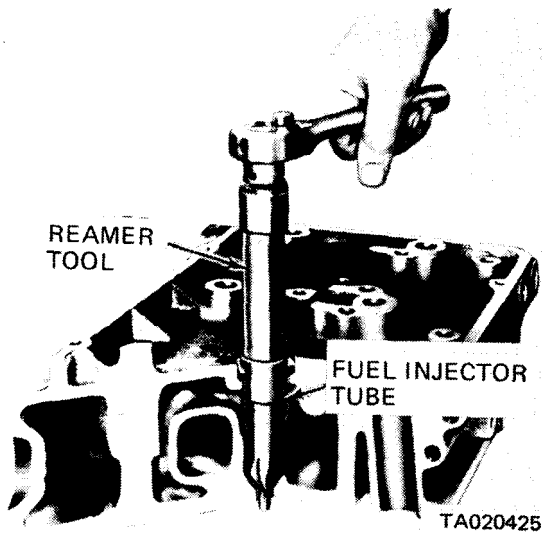

Figure 3-87. Reaming fuel injector tube for injector nut.
3. Ream the injector tube for the injector nut as illustrated in figure 3-87. Make trial cut by turning reamer without applying downward force. Remove reamer, blow out chips, and look at the bevel seat to see what portion of the seat has been cut.